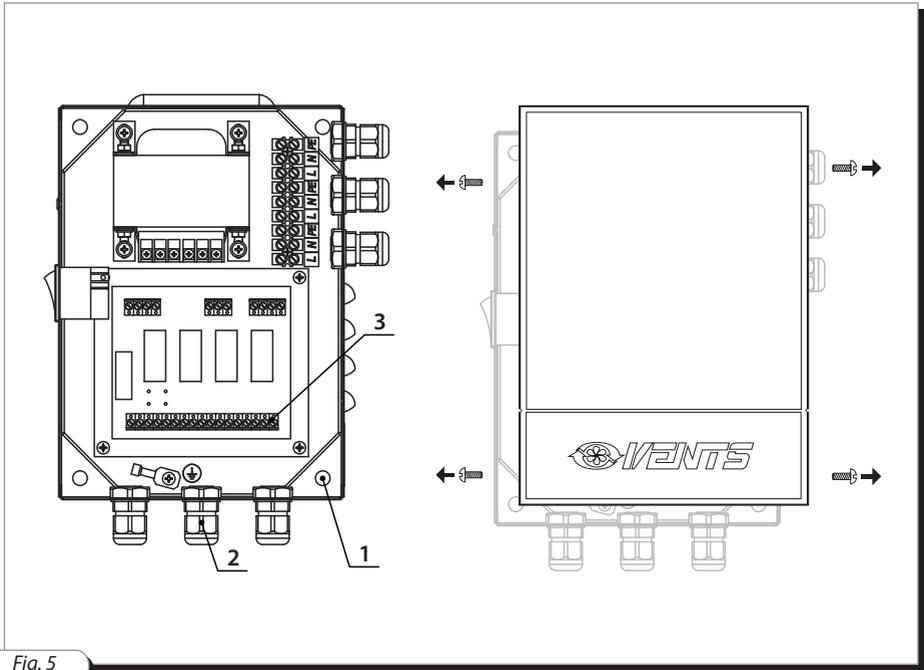

Fig. 5
- Open the unit front panel (see Fig. 5).
- Attach the control unit to the mounting surface with self-tapping screws and mounting holes 1 (see Fig. 5).
- Complete the electrical connections according to the Wiring diagram (see Fig. 6). Connect the external electric cables to the control unit by means of bolt-down terminals 3 (see Fig. 5). Route the cables into the unit casing through sealed lead-ins 2 (see Fig. 5).